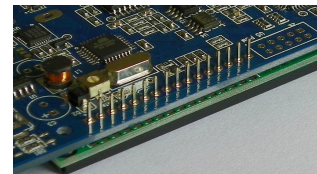

Fig. 8
- 4) Turn over both the main PCB and the LCD module (Fig. 8). Solder the two end pins first. Tweak and make sure LCD evenly and closely touches the main PCB. Solder the rest pins.